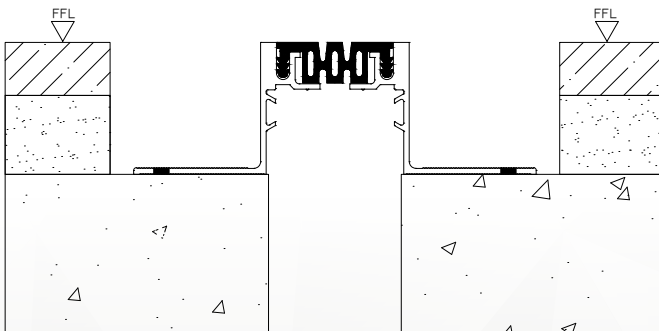

Figure 6.
9. Place the assembled joint cover into its installed position in the blockout and over the joint (see Figure 6 & 7). Ensure that the system is plumb, level, properly aligned, and centered over the joint. For Floor to Wall Systems, ensure that the wall base member is at the proper elevation. GENOTEK recommends using awls to hold the joint cover system in position during anchoring.